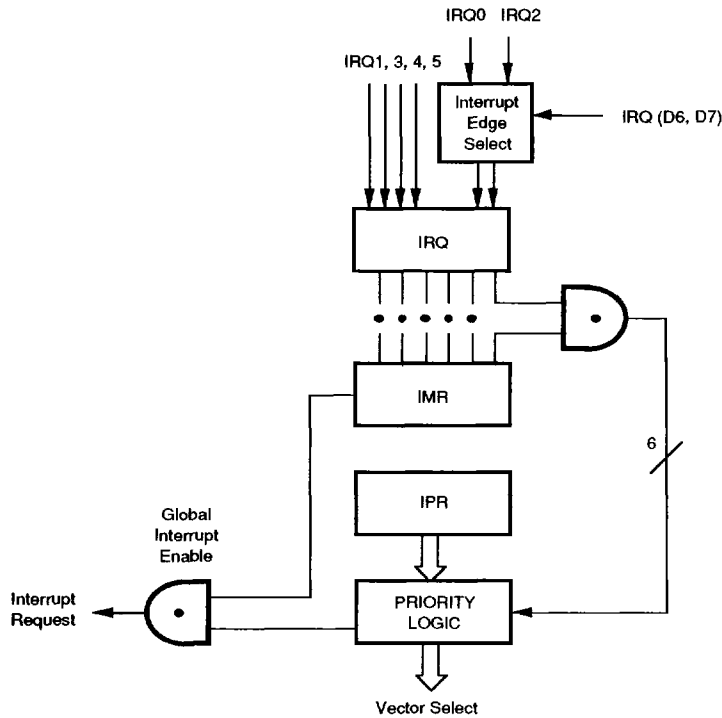

Figure 11. Interrupt Block Diagram
**Interrupts.** The Z86C30 has six different interrupts from six different sources. The interrupts are maskable and prioritized (Figure 11). The six sources are divided as follows; four sources are claimed by Port 3 lines P30-P33 and two in counter/timers. The Interrupt Mask Register globally or individually enables or disables the six interrupt requests (Table 3).